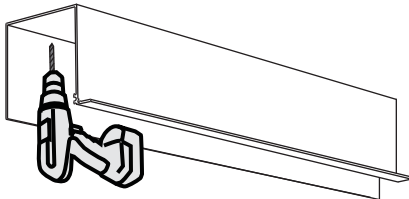

Figure 2
- ② Drill holes through pocket for wall or ceiling mount (see Fig. 2).